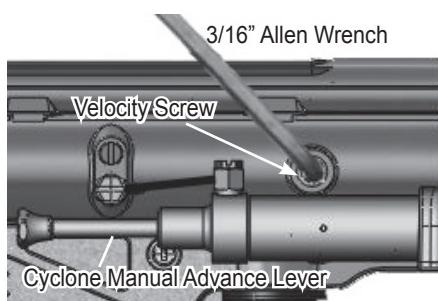

Figure 3: Velocity Adjustment Screw location
- a. Make sure that the Cyclone Feed System (CFS) housing is clean and free of debris. Make sure the Cyclone's internal arms turn freely when the Manual Advance Lever is pushed (Figure 3).
- e. Push the Manual Advance Lever once to chamber a paintball (Figure 3). Only remove the barrel blocking device and change the Selector Switch to Fire Mode when you are ready to fire the marker in a safe direction.
To adjust the marker's velocity, use the 3/16" Allen wrench included with your marker. The velocity adjustment screw is located on the right side of the receiver (Figure 3). To reduce the velocity, turn the screw inward or clockwise. To increase the velocity, turn the screw counterclockwise. Do not remove the velocity screw.